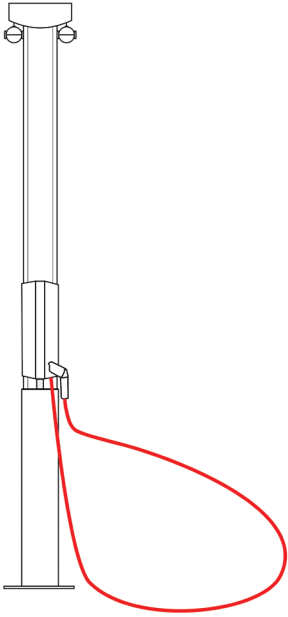

Figure 1.1 Cable unwound
- C. Unravel the charging cable by removing any twists and holster the charging station connector to the connector dock. See Figure 1.1 (Cable unwound).